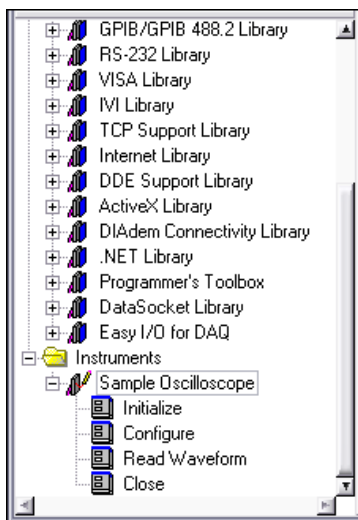

Figure 3-4. Sample Oscilloscope Instrument Driver
1. Expand **Instruments»Sample Oscilloscope** in the Library Tree. The sample oscilloscope driver contains four functions for communicating with a scope, as shown in Figure 3-4.